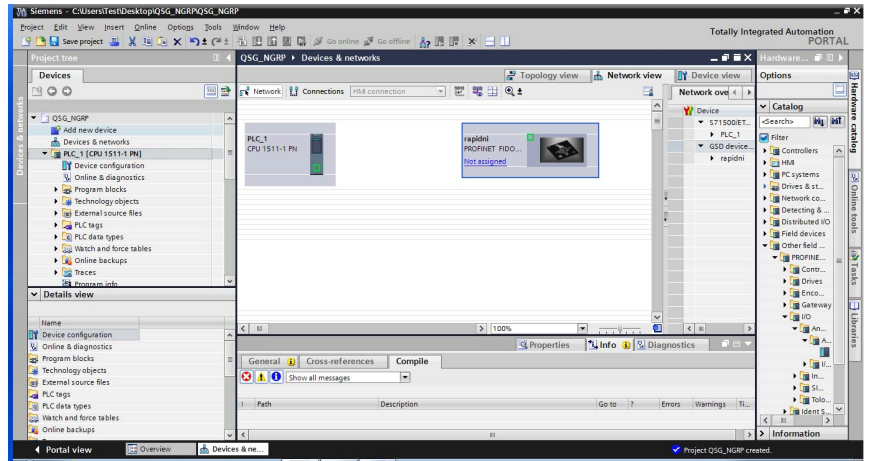
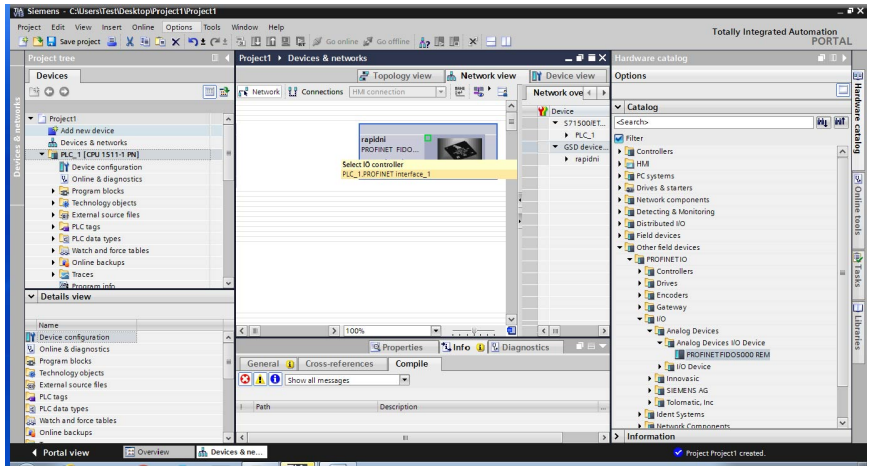

Figure 82. Rapid Device Installed onto the Network
Figure 83. Assigning the Rapid Device to the PROFINET Network
3. Drag the **PROFINET FIDO5000 REM** device into the **Network** area under the **Network view** tab (see Figure 82).
4. Click the **Not assigned** link (see Figure 82) within the **Network view** tab to bring up a yellow pop-up with the text appearing in the same format as a URL link, **PLC_1.PROFINET_interface_1** (see Figure 83). Note that the actual text that is seen may differ depending on the PLC of the user.